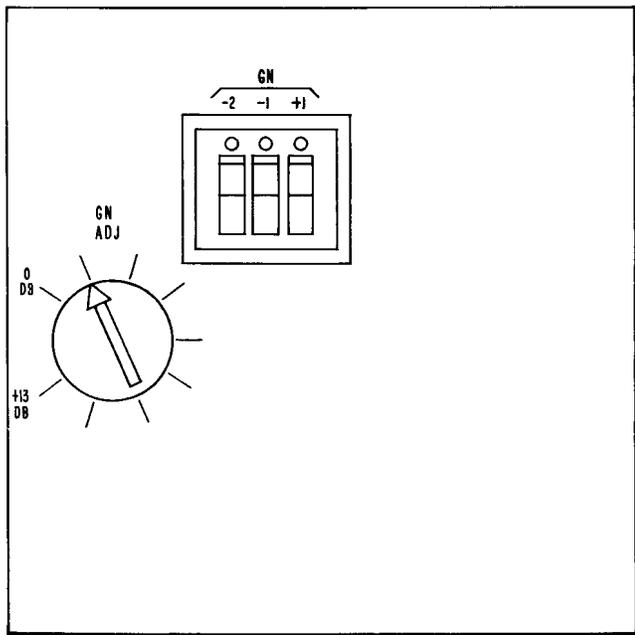

Fig. 5—309A Amplifier Unit Controls
2.03 The 309A flat-gain amplifier unit controls are shown in Fig. 5. Three gain range switches labeled GN (-2, -1, +1) and a gain adjust potentiometer labeled GN ADJ control the flat gain of the amplifier. The -2, -1, and +1 values of the gain range switches set the repeater for -20 dB (loss), -10 dB (loss), and +10 dB (gain), respectively. Only one of the gain range switches may be operated at the same time, eg, operation of the -2 and -1 switches simultaneously will not provide -30 dB loss. When all gain range switches are operated away from the -2, -1, and +1 designations (off), in the nonoperated position, the amplifier is set for 0 dB gain (assuming the GN ADJ potentiometer is turned fully counterclockwise). A gain range (GN) switch is operated by depressing the rocker toward the designation (either -2, -1, or +1).